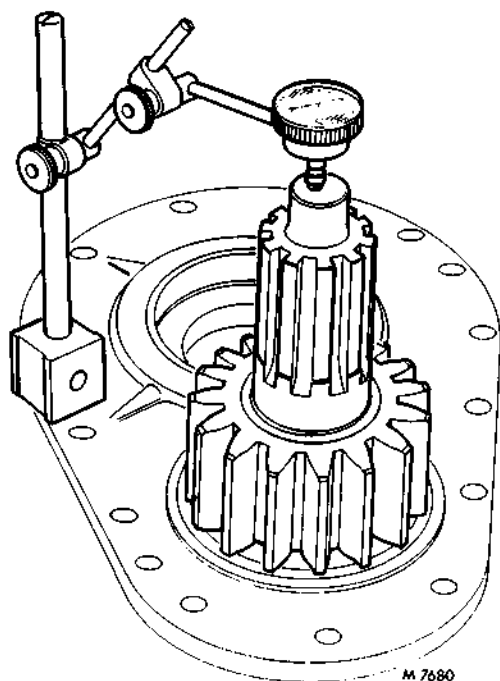

FIG. 7. PINION HEIGHT CHECK
23. Apply a dial test indicator to the pinion gear shaft, Fig. 7. Fit thrust plug and lockplate, fully tighten and note the reading.